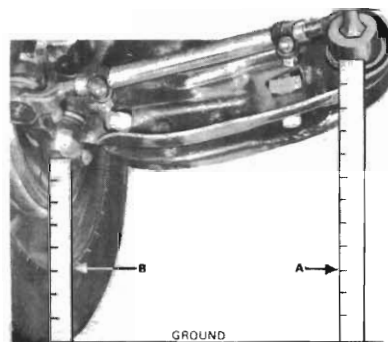

Fig. 2 - Measuring front suspension height
(1) Clean all foreign material from the bottom of the steering knuckle arm assemblies and from the lower control arm bushing housing directly below the centre of the lower control arm pivots.
(2) Jounce the vehicle several times releasing it on the downward motion.
(3) Measure the distance from the lowest point of the lower control arm bushing housing to the floor (*measurement A*) and from the lowest point of the steering knuckle arm, on the same side (*measurement B*) to the floor (*Fig. 2*).